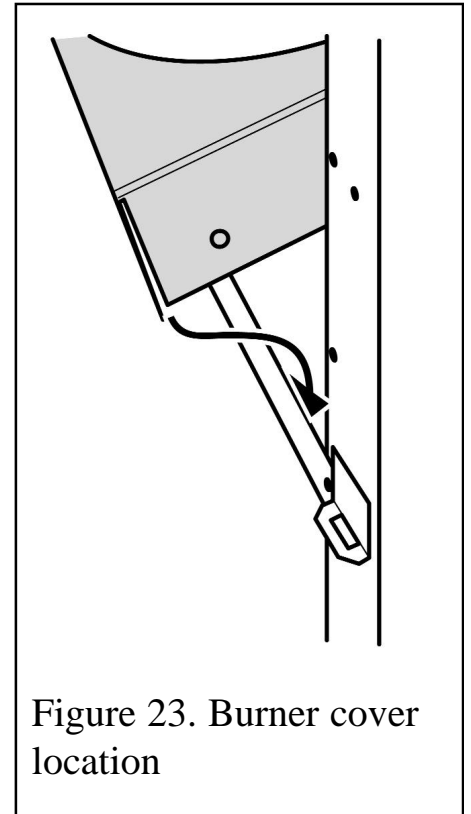

Figure 23. Burner cover location
2. Refit the burner cover by lowering it onto the burner module. The front edge of the burner cover should locate in front of the burner module. The sides of the burner cover should locate behind the front of the burner module. Secure with two screws removed previously (See figure 23)